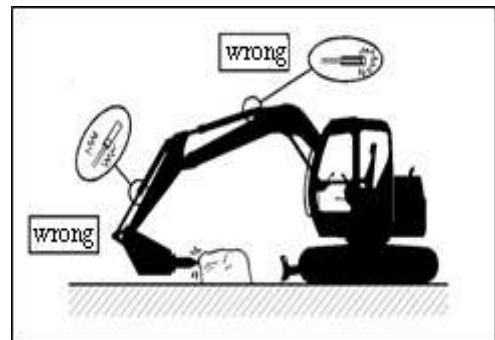

Figure 3. 8.3
- (3) Avoid hammering work with hydraulic breaker. Never use boom or arm to break objects, otherwise it will damage machine (As figure 3. 8.2).
- (4) Don't move objects with hydraulic breaker, otherwise it will damage machine.